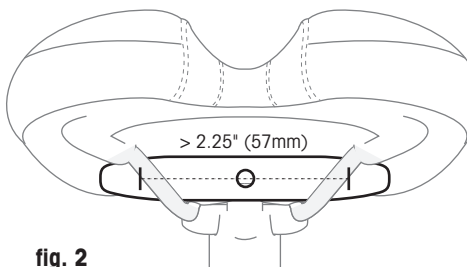

fig. 2
- 2) Lightly tighten the quick release mechanism to hold the bracket in place while making adjustments. (Fig. 2)
- 3) Gently pressing down on the rack platform will engage the rubberized seat post bracket onto the seatpost. (Fig. 2)
- 3) En pesant sur la plate-forme, l'attache de la tige de selle va se refermer sur la tige de selle. (Fig. 2)